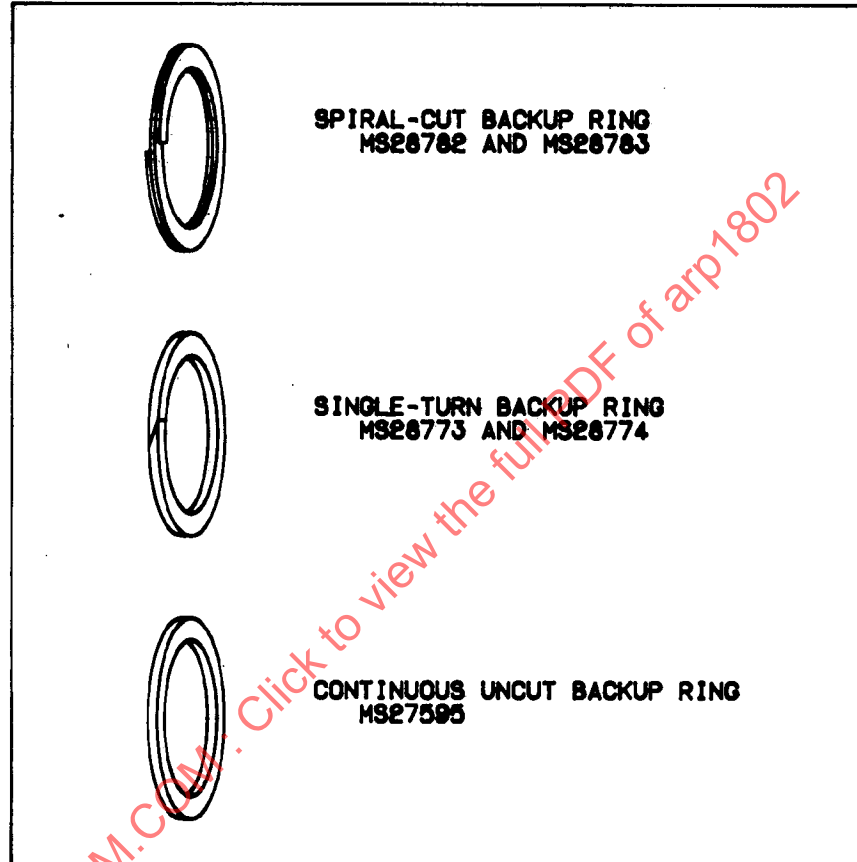

FIGURE 5
- 5.1 Basic Types: There are three basic types of backup rings in use (Figure 5). Dimensional details and material vary depending upon whether the ring is manufactured to a Military Standard (MS) or to one of the many commercial standards.